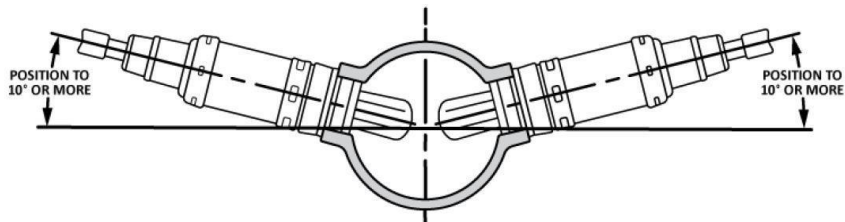

Figure 2
2. Ensure the location for the sensor is at the angle in **Figure 2**. This will help prevent condensation in the exhaust tubing from entering the sensor. The sensor can be mounted on either side of the tubing.
3. Locate a place in the exhaust to drill a 3/4" hole. Make sure to allow enough clearance for an O2 sensor and wiring harness. It is important to keep the O2 bung (**Item 2a**) at least 12 inches from open exhaust. Ensure the location for the sensor is at an angle (**Figure 2**). This will help prevent condensation in the exhaust tubing from entering the sensor. The sensor can be mounted on either side of the tubing.